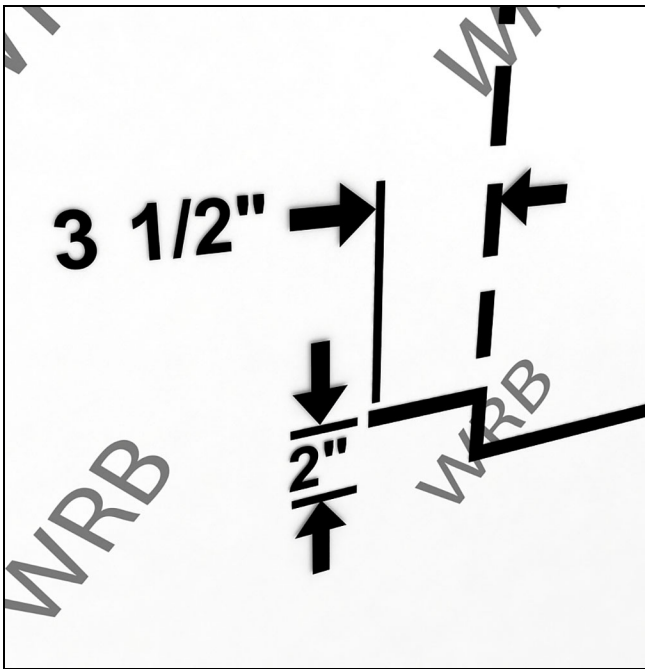

Figure 5
2. Trim up from the bottom corners about 2" (51) and then make an additional horizontal cut about 3 1/2" (89) wide. See Figure 5.